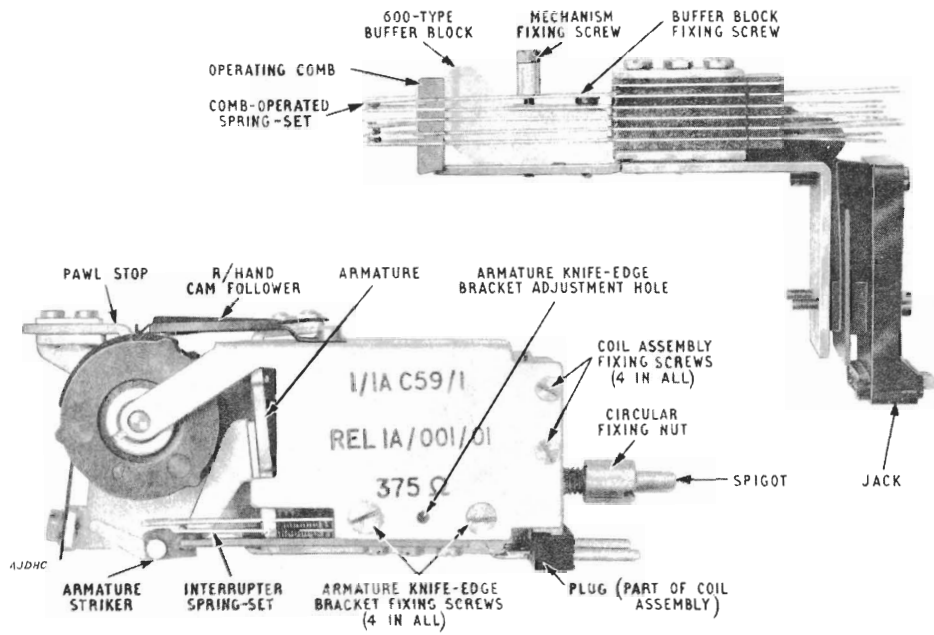

FIG. 4
6. Removal of mechanism from rack. After the selector or relay-set is 'busied', the mechanism of the ratchet relay may be withdrawn (see Fig. 4) leaving the spring-sets *in situ*.